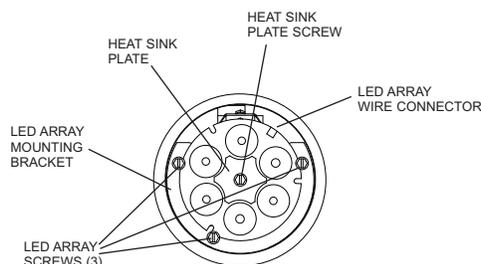

FIG. 2
2. Remove the lens assembly by rotating the end cap counter clockwise (Fig. 2).
3. Remove three LED array screws (Fig. 2). Keep screws for later assembly.
5. Disconnect power supply wires by disengaging the connector from the LED array wire connector (Fig. 2). Note: Firmly hold the LED array and gently pull wire by claspng the wire connector.
6. Remove the heat sink plate screw and heat sink plate to disengage the heat sink from the LED array (Fig. 2).
7. Secure the replacement LED array to the heat sink by replacing the heat sink plate and screw from step 5 (Fig. 2). Note: Make sure that the LED array wire connection is oriented away from the wall bracket as illustrated in Fig. 2.
8. Connect the power supply to the LED array and slide LED array assembly into fixture (Fig. 2).* Note: Hold the wire connector firmly when engaging with LED array connector. Ensure proper pin and guide slot orientation and secure firmly.
9. Secure the LED array assembly to the LED array mounting bracket with three screws from step 2 (Fig. 2).
5. Disconnect LED power supply wires by disengaging the connector from the LED array wire connector and the driver. Disconnect black and white power supply leads from the driver (Fig. 2).
10. Secure LED array to the mounting bracket with three screws from step 2.(Fig.2)